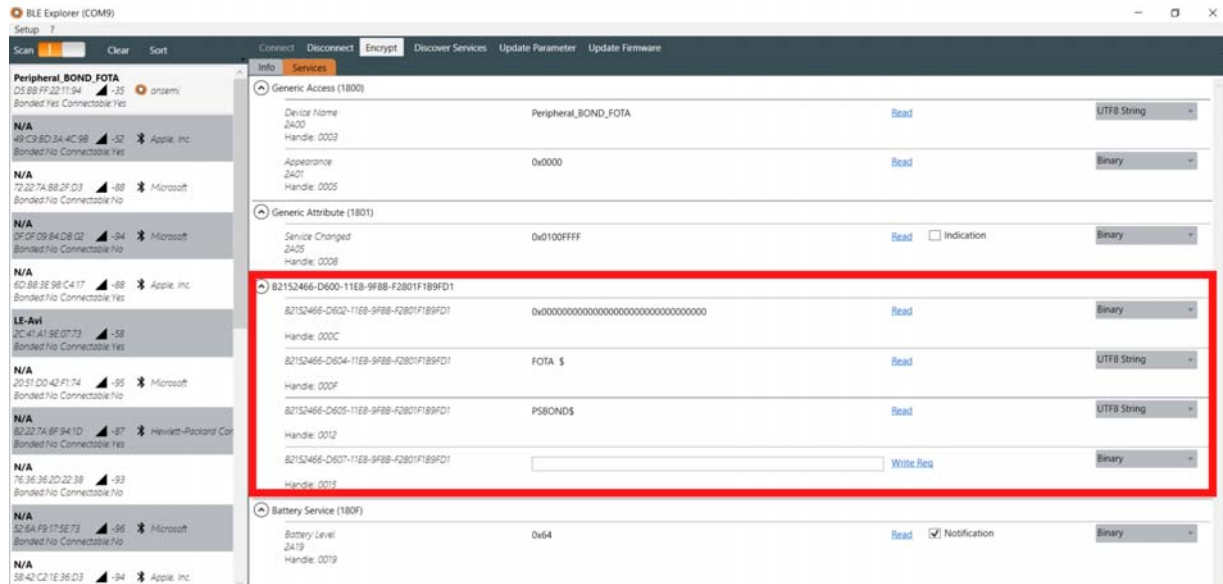

Figure 19. DFU Service in Attribute Database
13. Connect and discover services using the RSL10 Bluetooth Low Energy Explorer, and you can see that the DFU service is added in the attribute database, as shown in Figure 19 on page 35: